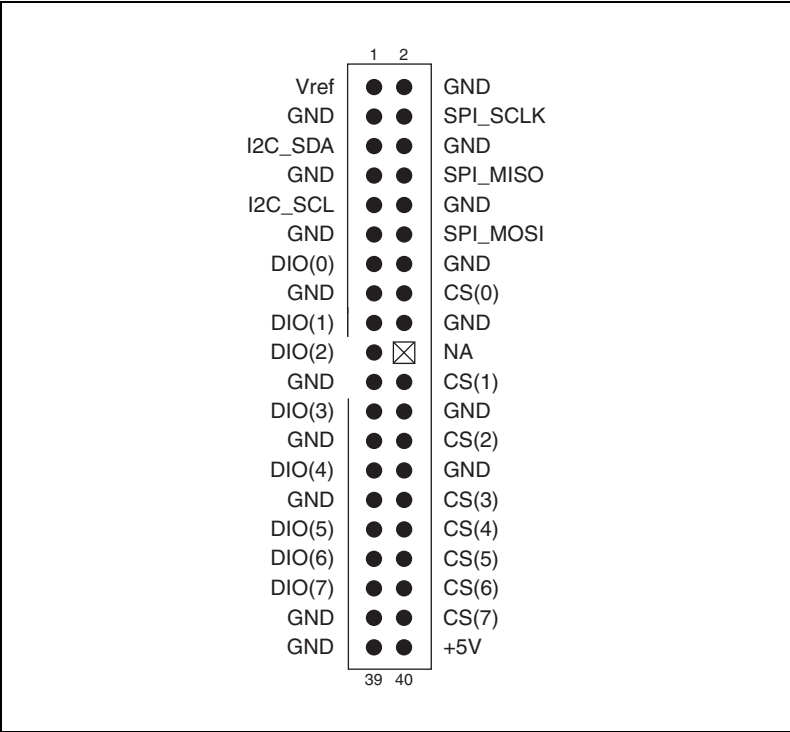

Figure 3-9. IDE-40 Connector Pin Assignments
2. Connect the other end of the cable to your board. Refer to Figure 3-9 for the IDE connector pinout. Refer to Signal Descriptions for more information about the signals. Connect the ground pins next to the functional pins for better signal integrity.